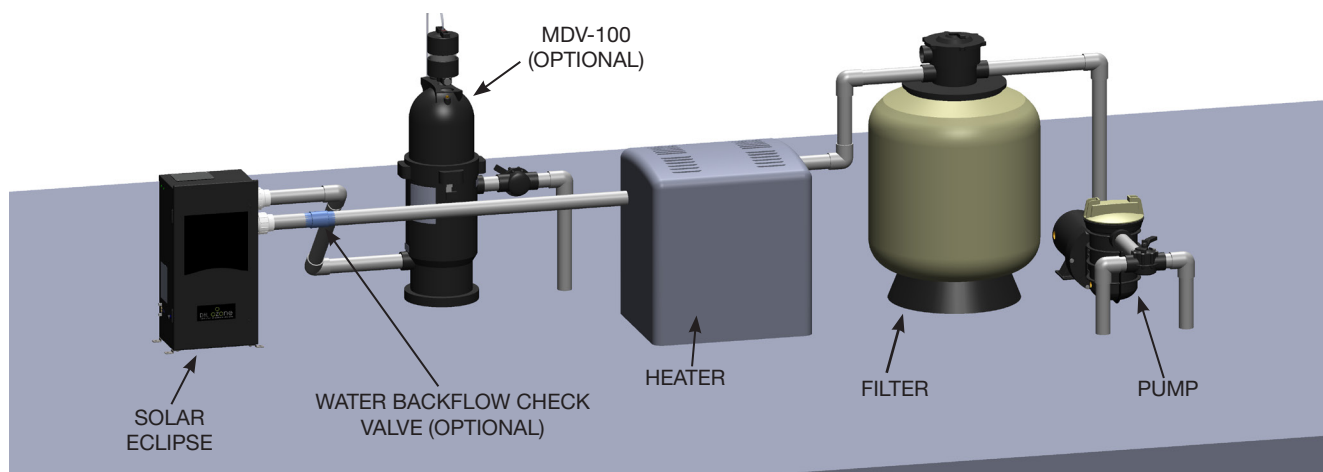

Figure 3: Solar Eclipse Location in Pool Loop
- Install at least 5 feet (1.5 meters) from wall of pool. Install ozone generator no less than one (1) foot above maximum water level to prevent water from contacting electrical equipment. Install in accordance with the installation instructions.
- The Solar Eclipse must be installed in an outdoor location, or indoors in a forced air ventilated room, and installed so that the orientation is exactly as shown in Figure 3. Install to provide water drainage of generator to protect electrical components.
The Solar Eclipse must be installed in the pool's main return line after all other pool equipment (pump, filter, heater, and cleaner). The outlet of the SEC (or MDV-100) must be at least 10 feet from the first return to the pool. Figure 3 shows the most basic installation. For installation with additional sanitizers and pool cleaners, refer to Appendix A.
The Solar Eclipse will come with one half of a union fitting installed on Inlet and Outlet, the other half of the fittings will be located in the Solar Eclipse parts bag. Use the union fittings provided to connect the Solar Eclipse inlet and outlet to your pool's plumbing as shown in Figure 3.